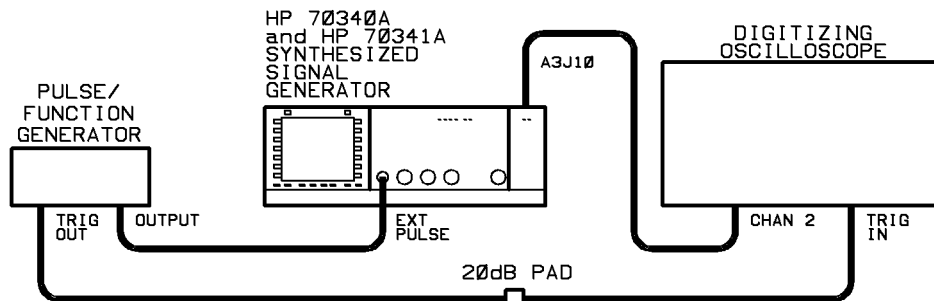

Figure 1-10. Pulse Width Test Setup
5. Connect the equipment as shown in Figure 1-10 with the oscilloscope connected to A3J10.